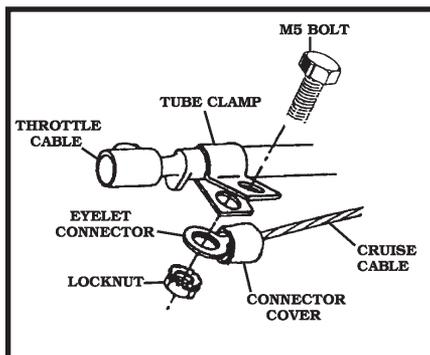

Figure 14
1. Select a **TUBE CLAMP** that fits the throttle cable. Make sure the tabs of the **TUBE CLAMP** point away from the carburetor or air throttle, this will prevent the throttle from hanging. **Figure 14**
3. Put the **M5 BOLT** through the holes in the **TUBE CLAMP**. Slide the **EYELET CONNECTOR** over the bolt. Thread the **LOCKNUT** onto the bolt and tighten. **Figure 14**